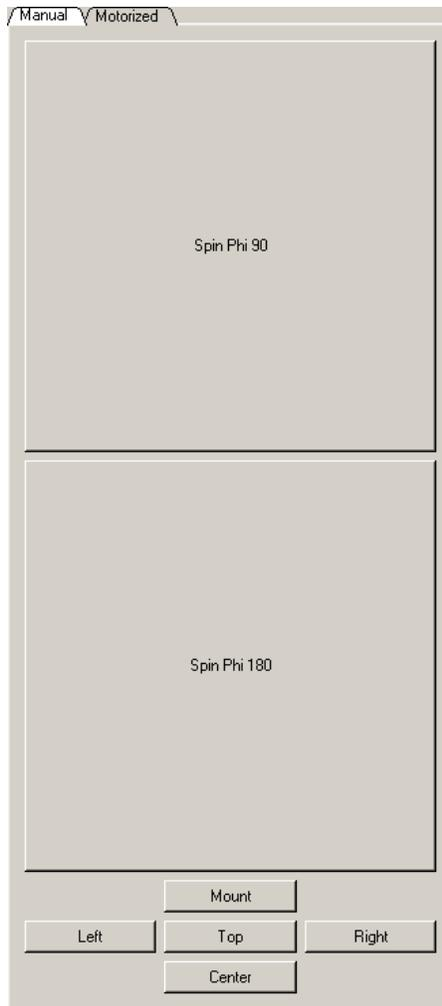

Figure 5.2 – Centering buttons
2. Under **Setup** in APEX2Server's Task Bar, click **Center Crystal**. The centering buttons (Figure 5.2) appear and the VIDEO program window opens.
The bottom five buttons in Figure 5.2, **Mount**, **Left**, **Top**, **Right**, and **Center**, drive the goniometer to various pre-defined positions that are designed to simplify crystal centering. The two large square buttons rotate phi by either 90 or 180 degrees.